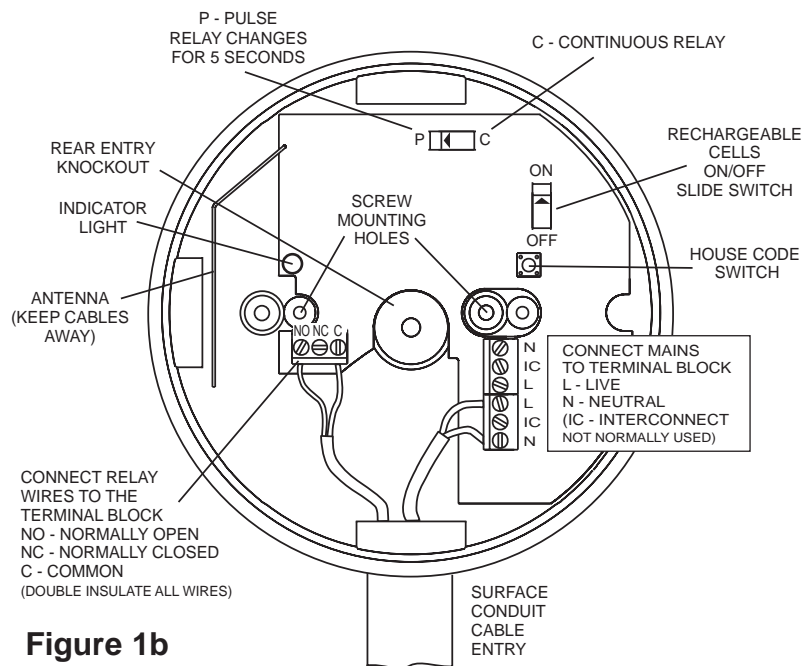

Figure 1b
The Ei428 RadioLINK Relay Module is powered by the 230VAC mains and has rechargeable back-up cells. As supplied the relay operates continuously (i.e. it switches when one of the smoke / heat alarms detects fire and switches back when the smoke clears). When the slide switch is moved to the pulse 'P' position (see figure 1b) the relay will switch when fire is detected but will automatically switch back after 5 seconds. This is commonly used with warden call systems where only momentary short circuit signalling is required.
from the knockout, making sure that there is no gap when mated with ducting/conduit. There is one suitable knockout (the other two surface entries are not recommended as the wiring will reduce the antenna signal). See figure 1b.
4. Screw the Ei428 module to the wall after first removing the required knockout and bringing the house wires through it (see figure 1b).
5. Connect the house wires (L-Live, N-Neutral) to the terminal block as shown in figure 1b (Note the interconnect can be hard wired to a non radio link Ei mains powered smoke alarm (Ei141, 144, 146, 151TL, 154TL, 156TLH, 161, 161R, 164, 166, 166R) to switch the relay, if required). NB: The unit must not be earthed so do not connect a green / yellow or copper earth wire to any terminal.
If momentary relay operation is required, carefully and gently slide the yellow switch to the “P” position with a small screwdriver (see figure 1b). This **must** be done before the mains power is connected or the rechargeable cells are activated.
7. Connect the rechargeable cells by carefully and gently sliding the switch to the “on” position See figure 1b.
9. Connect the mains power to the Ei428 module. Check the green light is on. If a red light flashes every 10 seconds then switch off the mains power, remove the cover and check that the battery slide switch is in the “On” position (see figure 1b). Replace the cover and turn the mains power back on. If there is still a problem the rechargeable cells may be depleted, leave the unit on mains power for 2 hours to charge and test again.
(i) Check that the green light is on and that it is not flashing red once every 10 seconds. If it is, this indicates that either the rechargeable cells in the RadioLink Relay are not connected or depleted. Disconnect the mains supply. Remove the cover and gently slide the battery slide switch (see fig 1b) into the "on" position. If the green light is still changing to flashing red every 10 seconds, leave it for 2 hours to charge and then re-check it.
If your RadioLink Relay fails to work after you have carefully read all the instructions, checked that the unit has been installed correctly, and is receiving AC power (green light on) contact Customer Assistance at the nearest address given at the end of this leaflet. If it needs to be returned for repair or replacement, open cover and turn off rechargeable cells with slide switch (see fig 1b). Put the RadioLink Relay in a padded box and send it to "Customer Assistance and Information" at the nearest address given on the unit or in this leaflet. State the nature of the fault, where the RadioLink Base was purchased and date of purchase.